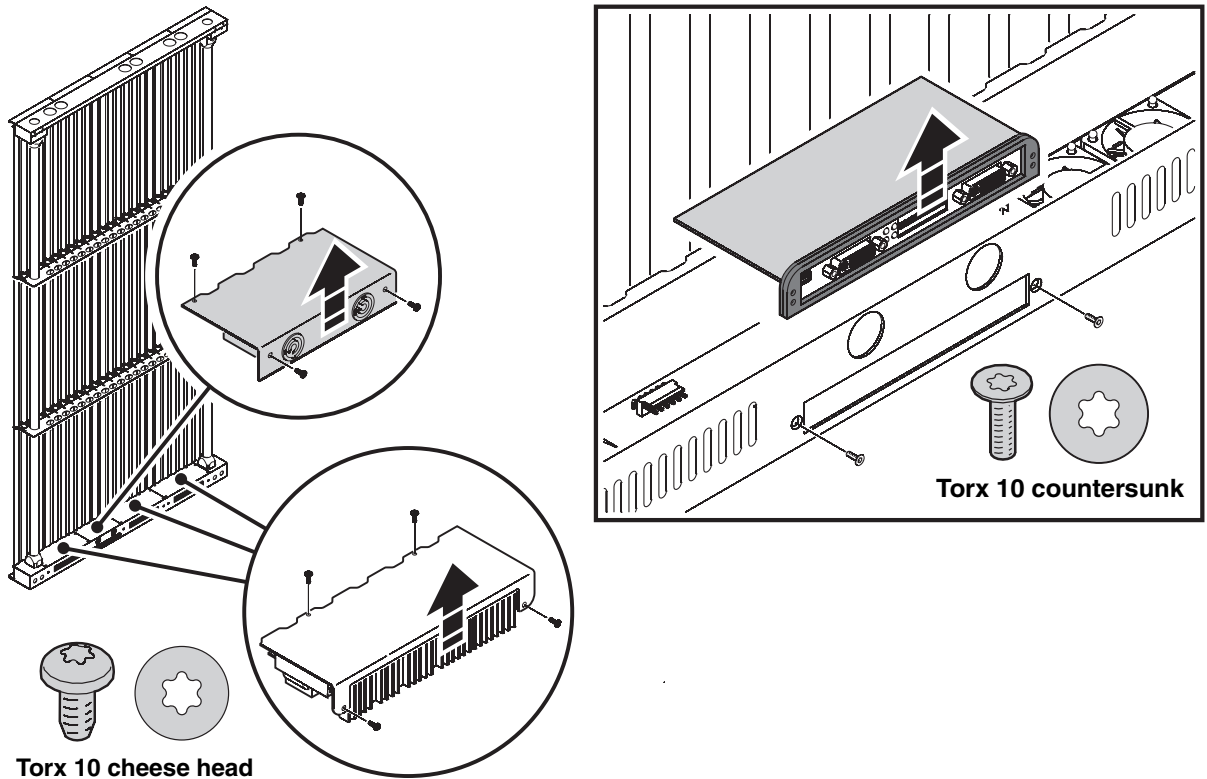

Figure 2
2. Remove the Torx 10 cheese head base cover retaining screws and lift the base covers up as illustrated on the left in Figure 2. Keep the screws for re-use.
3. Remove the two Torx 10 countersunk screws and lift the connections panel and main PCB out of the LC panel base as illustrated on the right in Figure 2, disconnecting the pins under the PCB from the sockets in the base as you lift. The two screws are no longer needed.
8. Use the two new Torx 10 screws supplied in the Upgrade Kit to fasten the new main PCB/control panel assembly into the base with reference to Figure 2.
9. Use the Torx 10 cheese head screws you removed earlier to re-install all covers with reference to Figure 2.